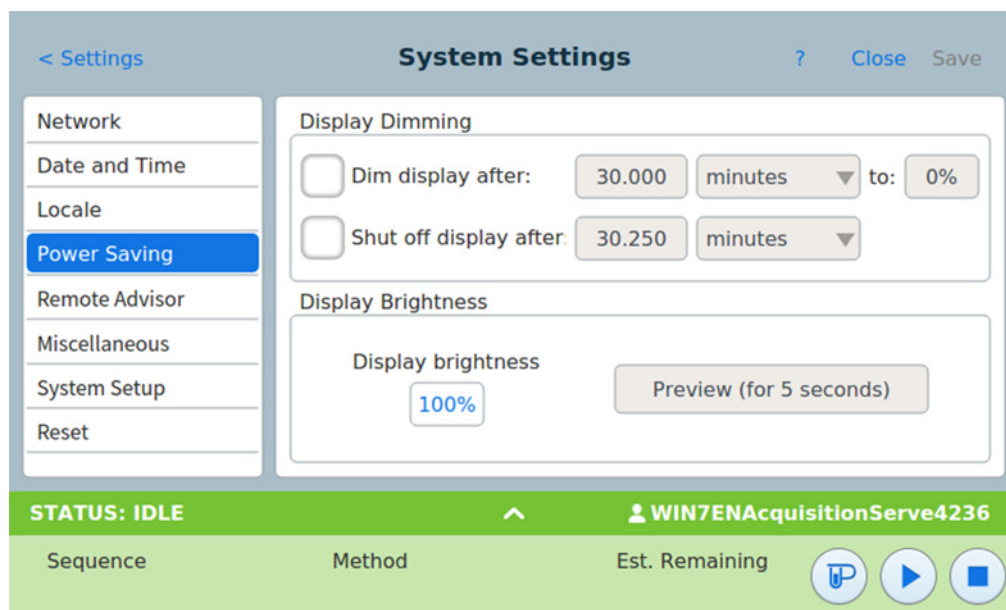

Figure 43 Power Saving page
- 1 From the System Settings page, press the **Power Saving** page selection button. The Power Saving page appears. See Figure 43.